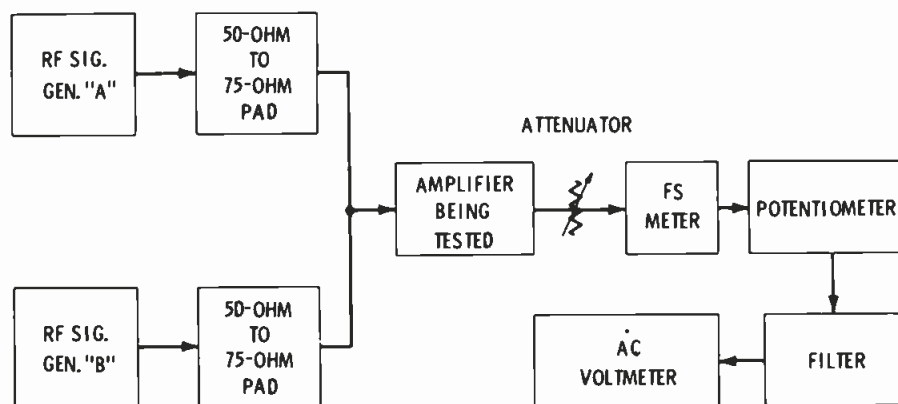

Figure 3
The recommended test set-up for determining the cross-modulation of an amplifier on a relative basis is shown in Figure 3 and the procedure is as follows: (1) Tune the field strength meter and signal generator A to 150 MHz; set signal generator modulation to 30 percent at 1000 Hz, and the RF level to the rated output of the amplifier; adjust the potentiometer and AC voltmeter for a convenient level which then corresponds to 100 percent cross-modulation; then turn off the modulation. (2) Tune signal generator B (modulated 30 percent at 1000 Hz) and the field strength meter to 210 MHz and adjust RF level to the rated output of the amplifier. (3) Set the field strength meter to 150 MHz and note the indication of the